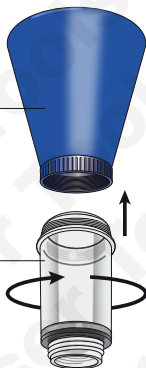

Fig 2
- Assemble the funnel (refer to Figure 2): screw transparent chamber B clockwise into the funnel A.